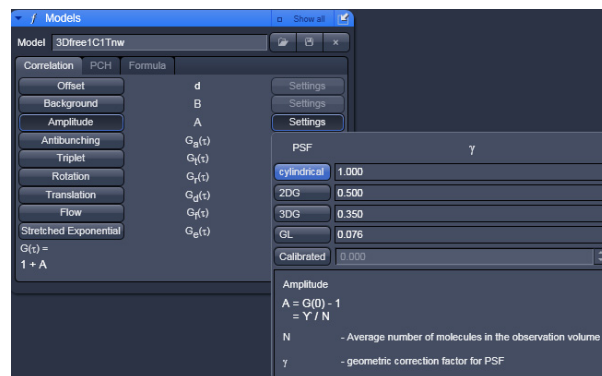

Fig. 61 Amplitude Settings panel
- You can set a value for the geometric factor γ , which describes the point-spread function (Fig. 61).
- By pressing the **cylindrical**, **2DG**, **3DG** and **GL** buttons you can select a cylindrical, 2 dimensional Gaussian, 3 dimensional Gaussian (3DG) and Gaussian-Lorentzian (GL) PSF, respectively. If you press the Calibrate button, you can type in a user defined number in selection box or use the arrows to set a value.